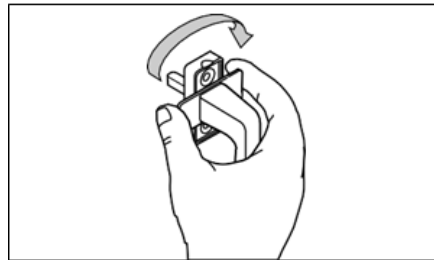

Figure 4-2. How to uncover the screw holes
- 2.1 Pull the screw cover of the Euro-Handle base towards you and rotate it 90° to uncover the screw holes. See fig. 4-2.